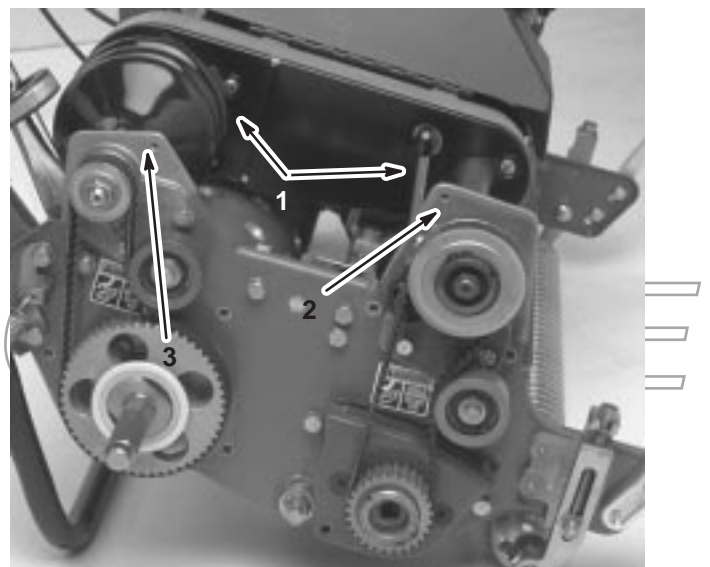

Figure 42
4. Remove the capscrews securing the front and rear sections of the differential cover to the differential housing and slide the cover sections away to expose the belt (Fig. 42).
6. Remove the 2 capscrews and locknuts securing the front clutch housing to the side plate (Fig. 42).
8. Remove the 2 capscrews and locknuts securing the right rear bearing housing to the side plate (Fig. 42).